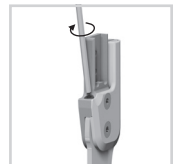

fig. 18
- 6 Screw in the adjusting screw up to the desired position (fig. 18).